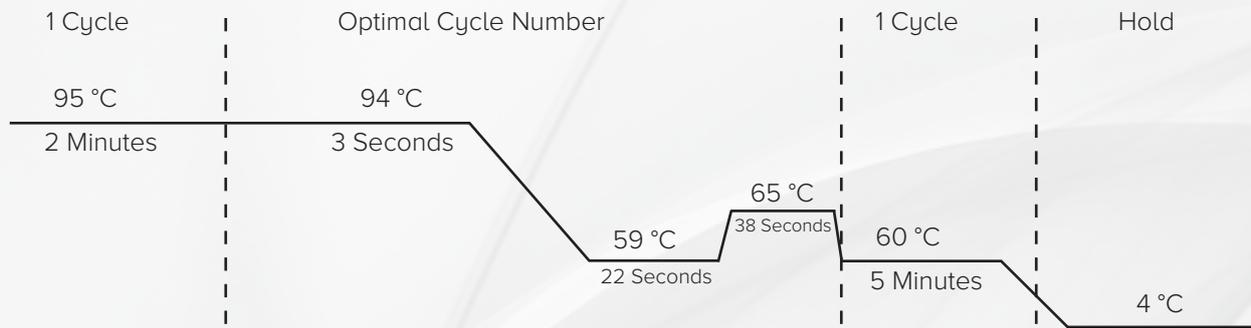

Figure 1: Standard cycling conditions
- Program the thermal cycler according to the manufacturer's instructions, using the conditions shown in figure 1: